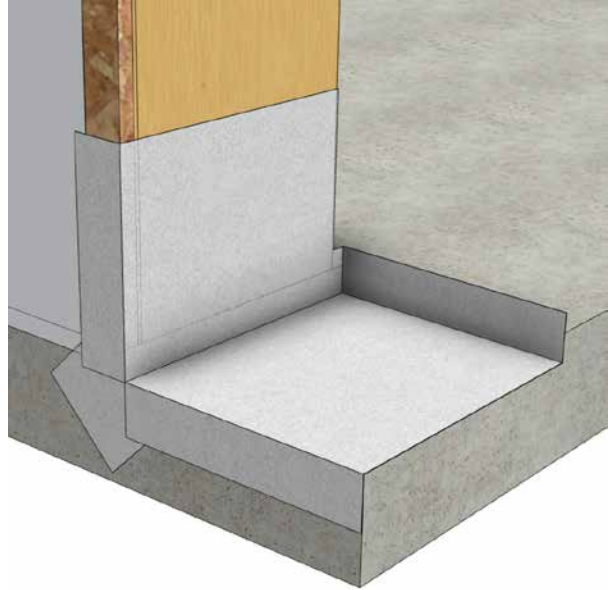

Fig 1
- Install Sill Pan in Rough Opening, either flexible or rigid. (Fig 1.)